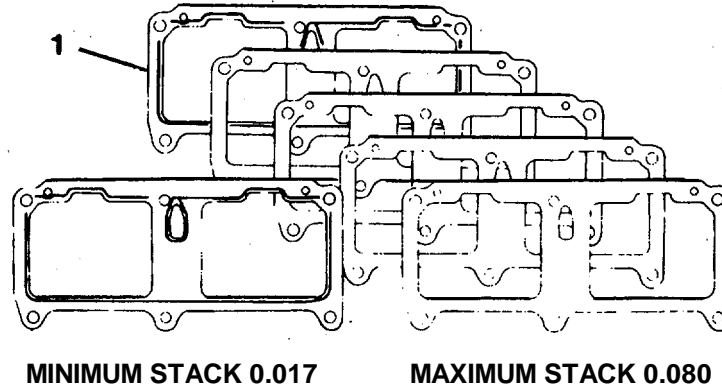

FIGURE 3-39. Gasket Stack-Up Thickness.
- (d) The gasket (1, FIGURE 3-39) must be against the cylinder block with the sealing bead toward the cam follower housing. The minimum amount of gasket stack-up thickness which may be used is 0.017 inch (0.43 mm). The maximum gasket stack-up thickness allowed is 0.080 inch (2.03 mm).